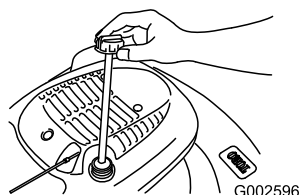

Figure 29
2. Retire la varilla (Figure 29).